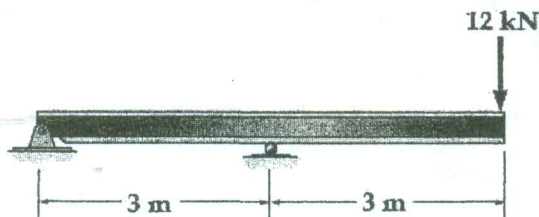

Fig.4
- b) Determine the support reactions of the beam shown in Fig.4 using direct stiffness method. Take EI as constant. 5 3 5 2